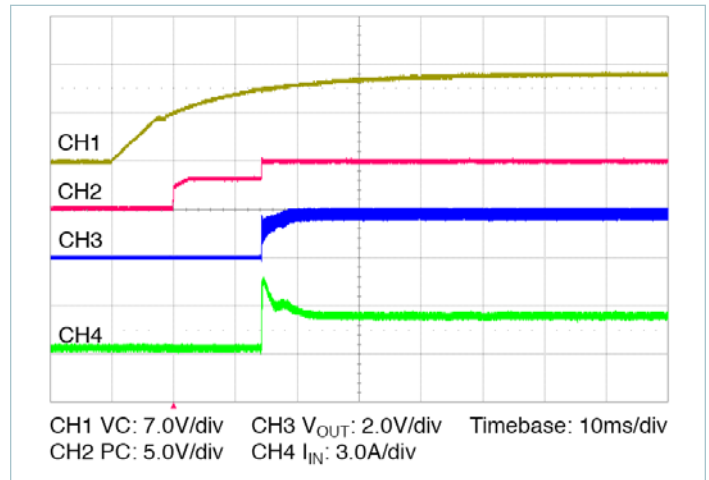

Figure 14 — Start up from application of VC; V_{IN} pre-applied $C_{OUT} = 27000\mu\text{F}$
- **Stand-alone operation (VC applied after V_{IN}):** In this case the VTM output will begin to rise upon the application of the VC voltage (See Figure 14). The Adaptive Soft-Start Circuit may vary the output rate of rise in order to limit the inrush current to its maximum level. When starting into high capacitance or a short, the output current will be limited for a maximum of 1200 μ s. After this period, the Adaptive Soft-Start Circuit will time out and the VTM module may shut down. No restart will be attempted until VC is re-applied or PC is toggled. The maximum output capacitance is limited to 27000 μ F in this mode of operation to ensure a successful start.